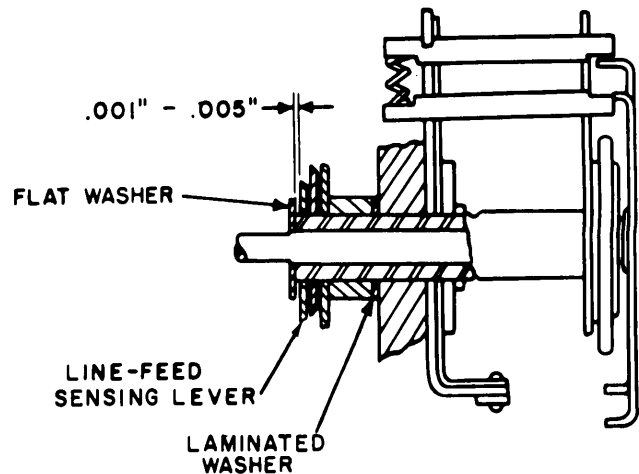

Figure 3-98. Function-sensing-levers end-play adjustment.
**3-131. Function-Sensing-Levers End-Play Adjustment (fig. 3-98)**